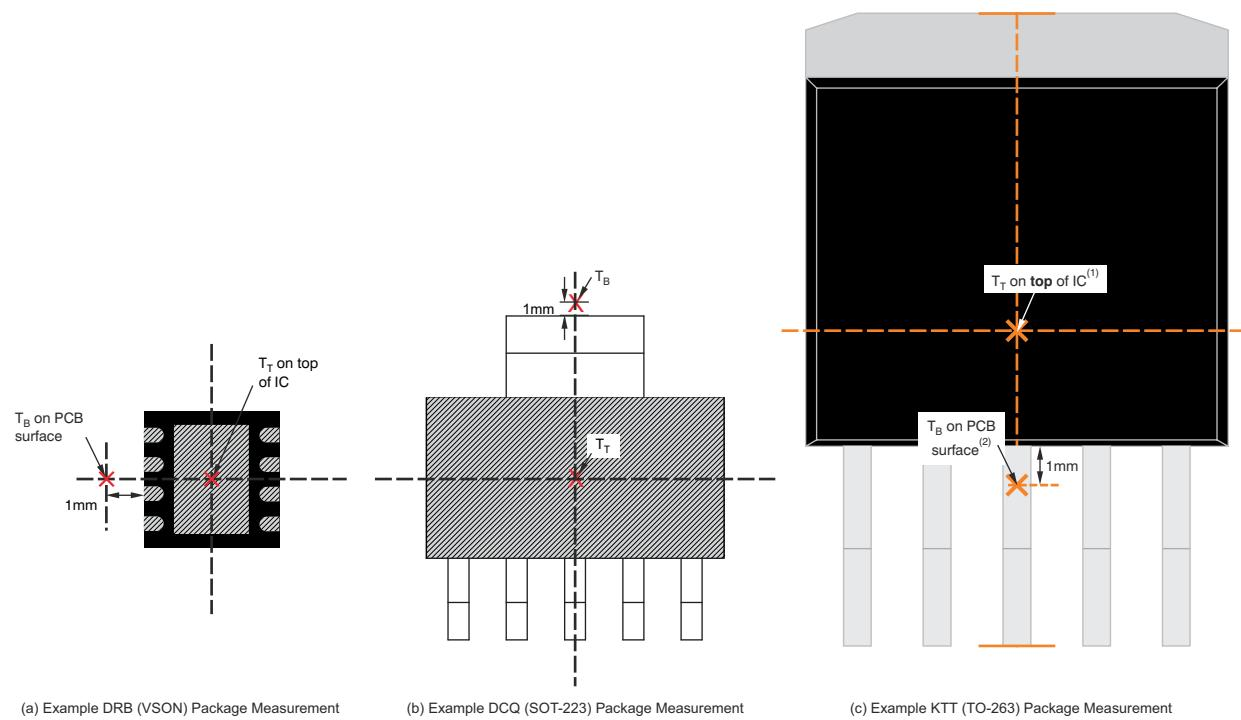

Figure 7-9. Measuring Points For T_T and T_B
- T_B is the PCB temperature measured 1mm away from the device package *on the PCB surface* (as Figure 7-9 shows).